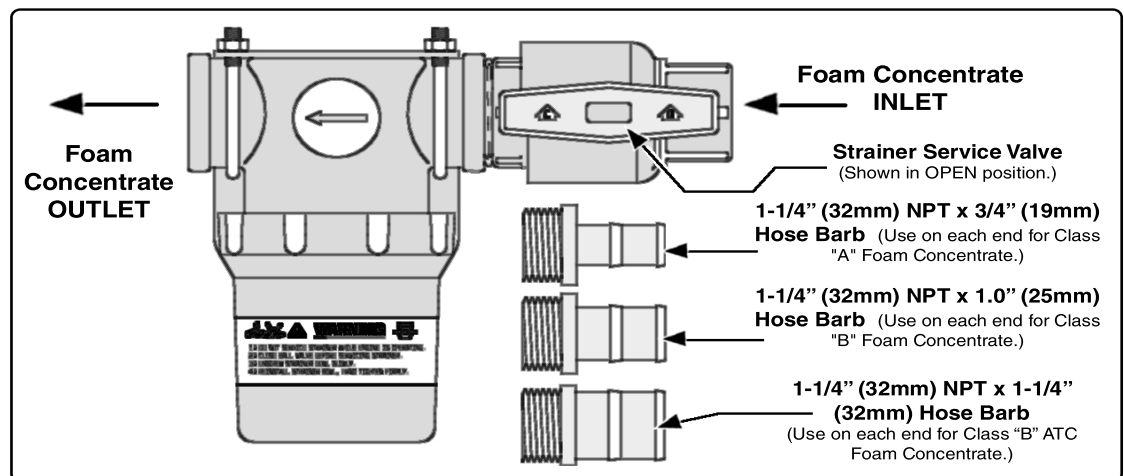

Figure 3-14: In-Line Strainer/Valve Installation
The strainer/valve assembly has 1-1/4" (32mm) NPT female threaded ports. Fittings are supplied for connection to the following inside diameter hose, depending on the viscosity of foam concentrates used. (See Figure 3-14: "In-Line Strainer/Valve Installation," on page 67.)
Use 3/4" (19mm) inside diameter hose for Class "A" foam and a 1.00" (25mm) inside diameter hose for Class "B" foams. For high viscosity Class "B" foam concentrates use 1-1/4" (32mm) or 1-1/2" (38mm) inside diameter hose. (See Figure 3-14: "In-Line Strainer/Valve Installation," on page 67.) A bracket is included to permit installation on the apparatus.
4. Select the appropriate fittings from the bag attached to the strainer assembly. Two of each fitting are included with the strainer assembly. For fitting selection vs. type of foam concentrate see Figure 3-14: "In-Line Strainer/Valve Installation."
6. Install the clear plastic hose from the foam tank outlet to the inlet of the strainer/valve assembly. (See Figure 3-14: "In-Line Strainer/Valve Installation," on page 67.) Wet the ends of the hose and fittings to make the installation easier.
9. Install the clear plastic hose from the foam tank outlet to the inlet of the strainer. (See Figure 3-14: “In-Line Strainer/Valve Installation,” on page 67.) Wet the ends of the hose and fittings to make the installation easier.